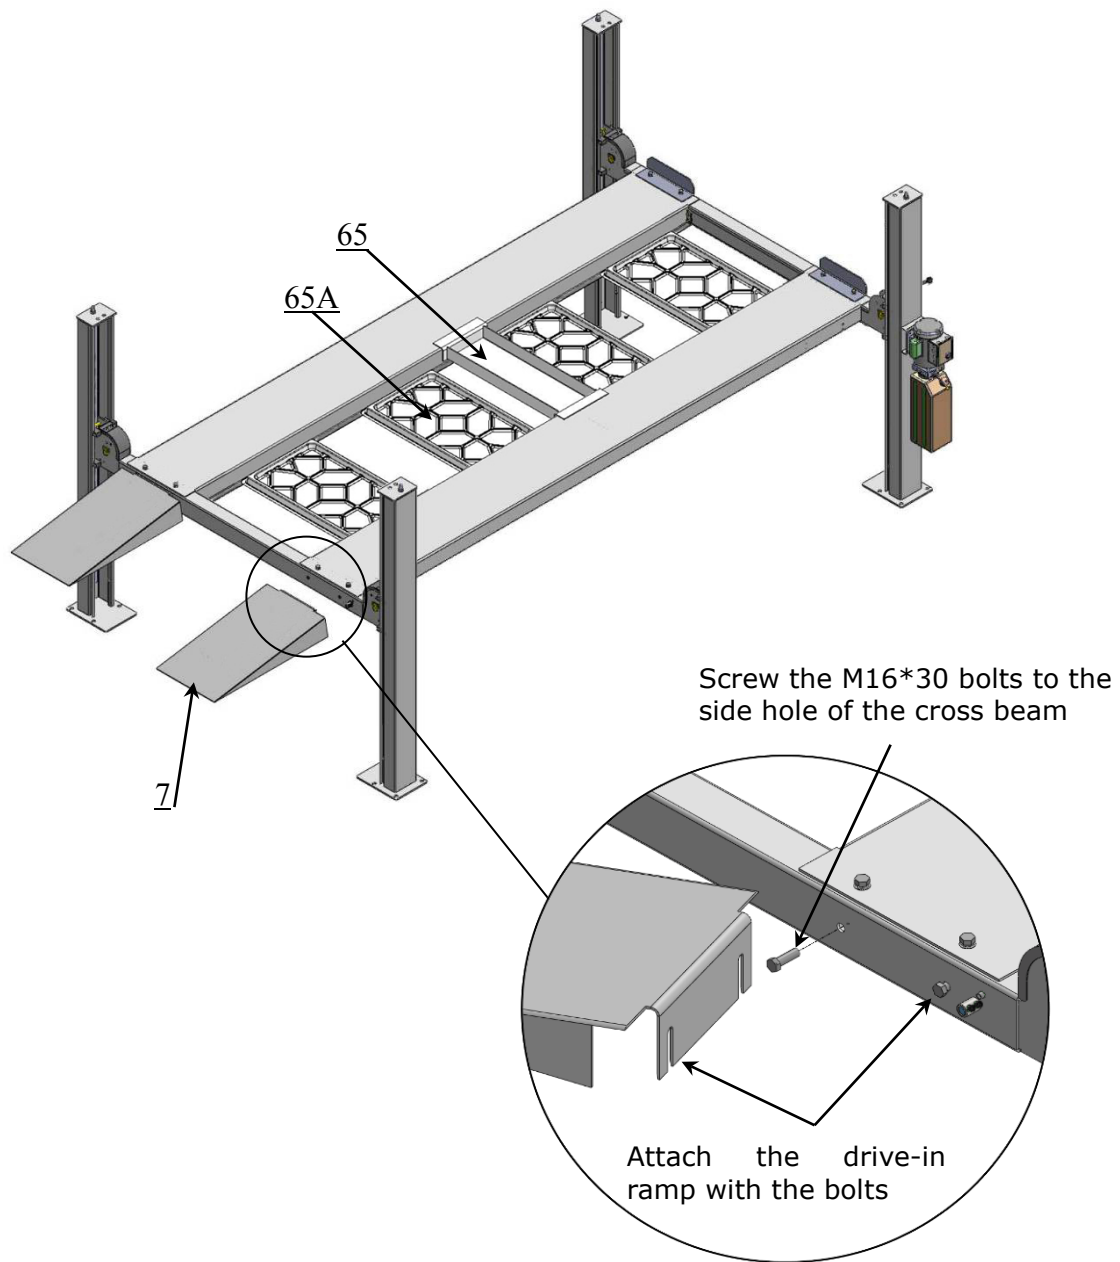

Fig. 29
N. Install drive-in ramp, jack tray and plastic oil pans (See Fig. 29).